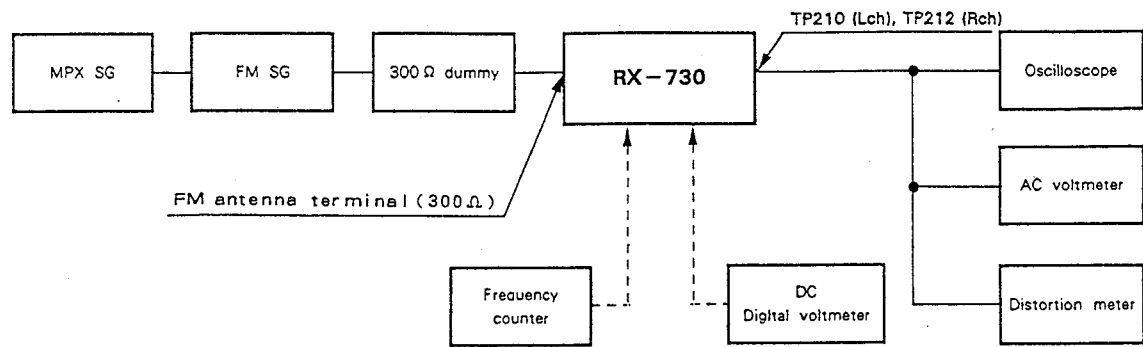

Fig. 5-5 FM adjustment wiring diagram
- Make the wire connections as shown in Fig. 5-5.